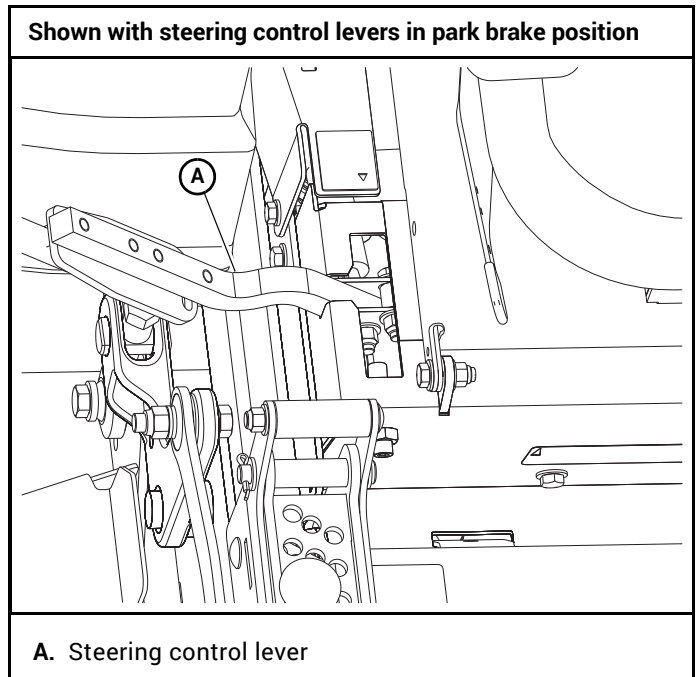
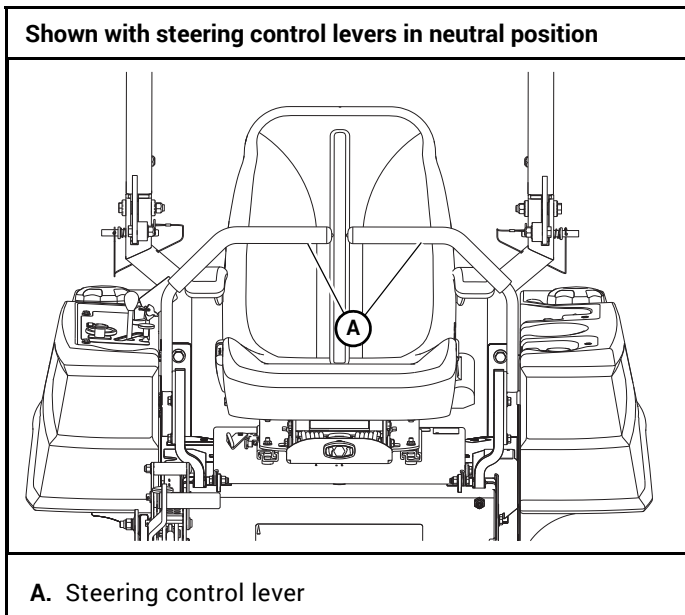

Figure 3-5
Figure 3-4
- A. **Steering control levers (Figure 3-4 & Figure 3-5)** – these levers control the mower's speed, direction, stopping, and park brake.